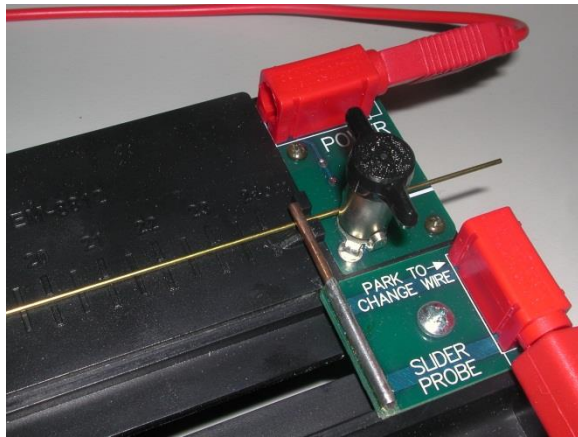
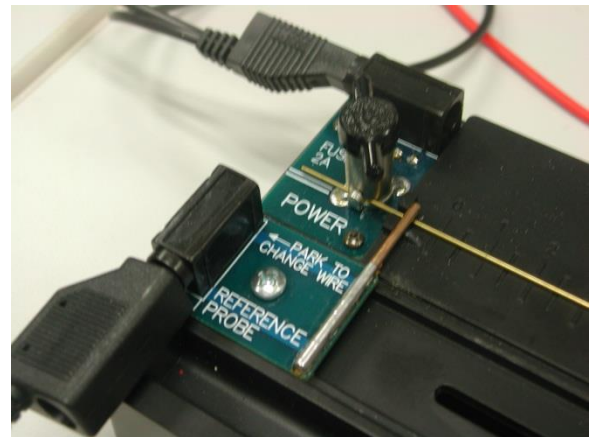

Figure 2: Right hand clamp
Figure 3: Left hand clamp
6. Install the copper wire in the apparatus. Slide from left or right using the white line-up hash marks. Figure 2 shows the right hand side as the wire slides in. Note that on the right hand side, the wire is on the far side of the silver clamp (with black handle), but on the left hand side the wire will be on the near side of the clamp as shown in Figure 3. This prevents the wire from bowing as you tighten the clamps.